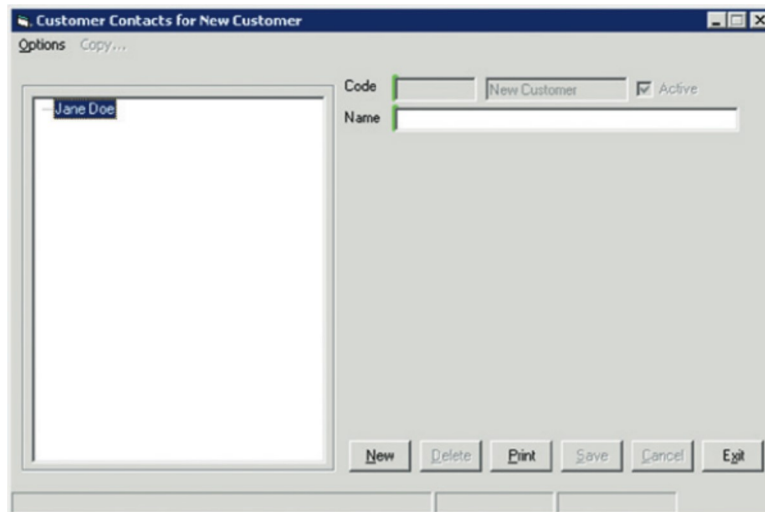

Figure 22. Customer Contacts dialog.
4. Click **New** on the *Customers Contacts* dialog (see Figure 22).